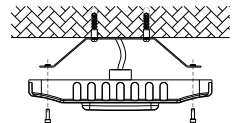

Figure 10
3. Mount the fixture on the mounting plate by supplied screws. (Figure 10)